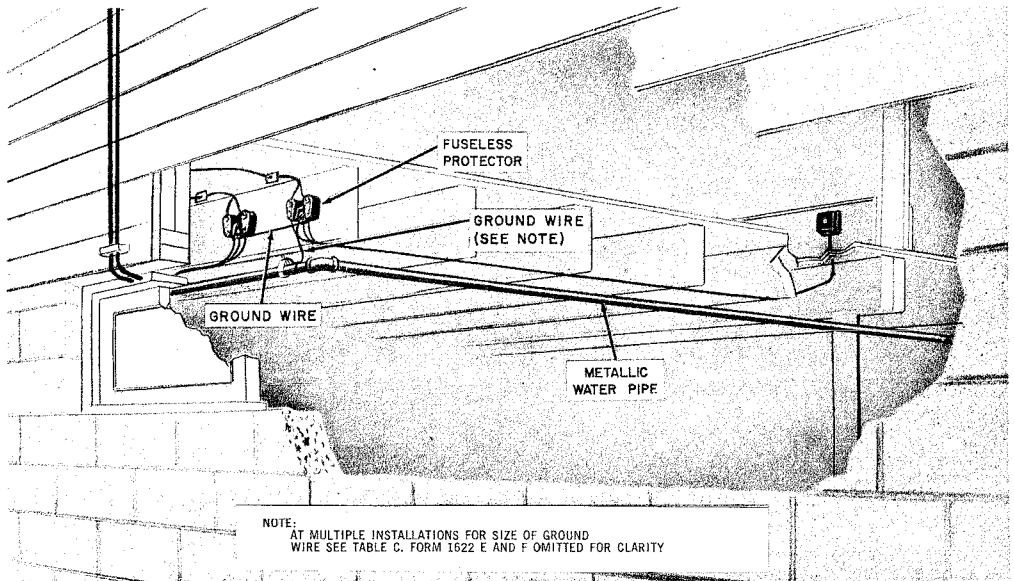

Fig. 19 — Ground Wire Run-Fuseless Protector
**5.07** Whenever possible, use a 72A Bracket to ground a fuseless protector. If a ground wire is necessary, the run should be short, straight, and if possible a continuous piece of wire, (Fig. 19).